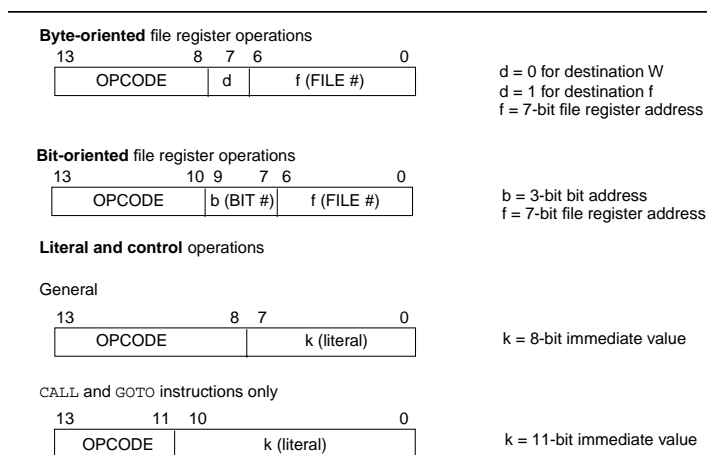

Figure 4: Format of instructions
The format of the instruction words are shown in Figure 4. All instructions can use either direct or indirect addressing to access a register file. Since the addresses range from 00h to 7Fh in each bank, only 7 bits are required to identify the register file address and this is contained within the instruction. The eighth and ninth bits, which identify the bank, then comes from the register bank select bits (RP1,RP0) from the STATUS register. Figure (5) illustrates how the bits are composed to access the appropriate address.